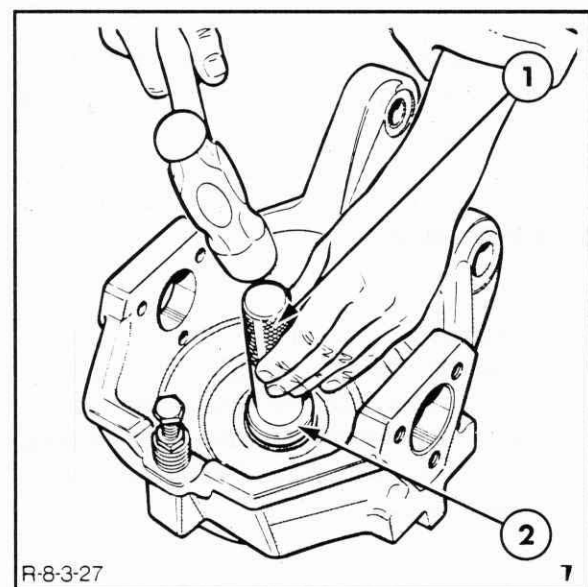

Figure 7-92
7. Install new oil seals to the swivel casing and axle center casing using driver handle No. 550 and FT.3162 (307972), Figure 7-92.